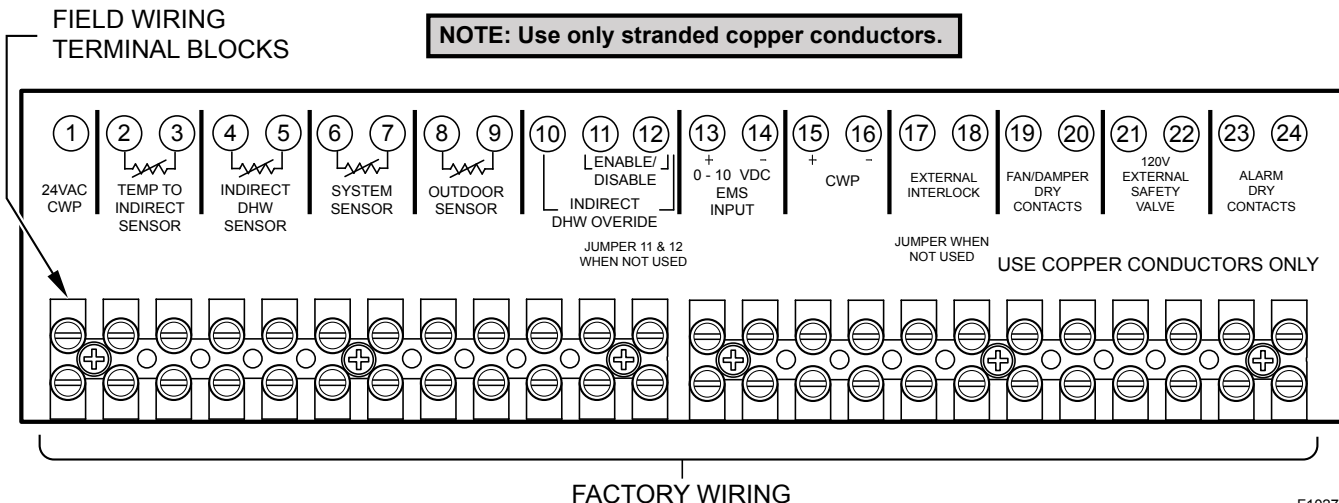

Figure 20. Low Voltage Field Wiring
2. If using an Outdoor Air Sensor, connect the sensor wires to the terminals marked OUTDOOR SENSOR. See Figure 20 on page 24. Caution should be used to ensure neither of these terminals becomes connected to ground.